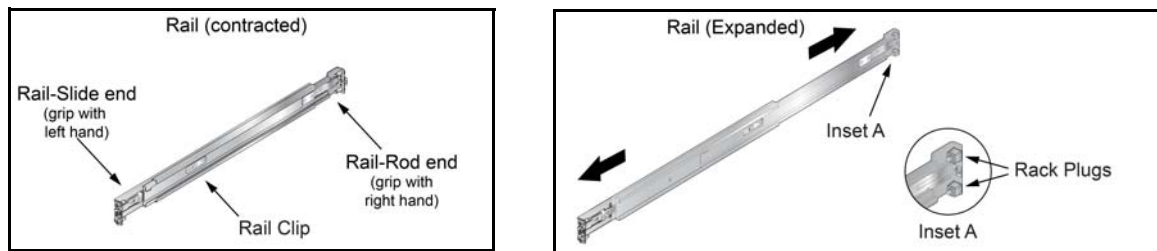

Figure 12: Expanding the Rails
- Step 1** Grip the slide end with your left hand the rod end with your right hand (Figure 12-Left).
Step 2 Pull the ends apart until the rail-clip makes an audible click (Figure 12-Right).
A rail connects a front post to a rear post. Each end has two rack plugs (Figure 12-Right, inset A). Rails are installed into a rack by inserting the plugs into rack slots. To install rails into posts with threaded or rounded holes, remove all plugs on both sides of the rails, then install the rails with bolts that fit the rack. This procedure attaches the rails to a four-post rack: